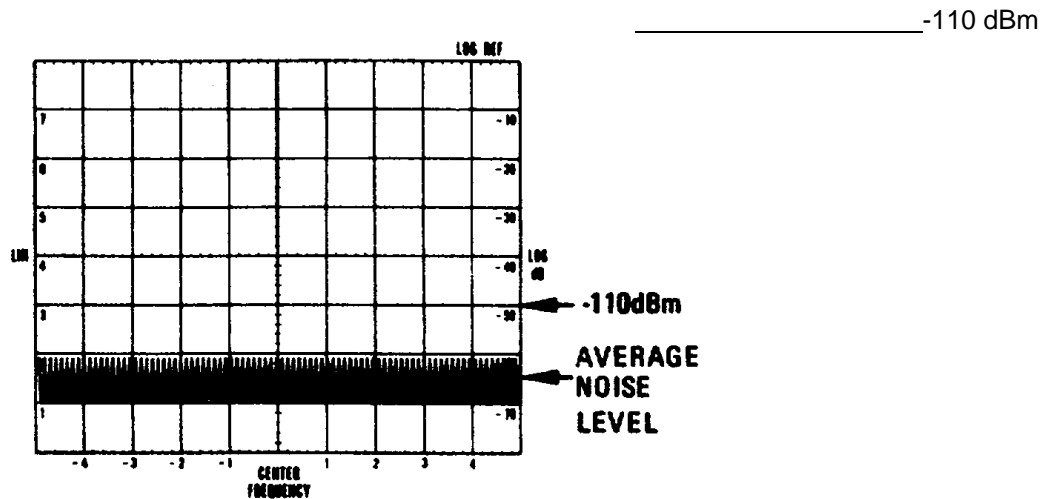

Figure 4-11. Sensitivity Measurement: CRT Display
3. Observe the average noise power level on the CRT. It should be lower than -110 dBm as shown in Figure 4-11 as frequency is tuned from 110 MHz to 1 MHz. Make sure the LOG REF LEVEL vernier is set at 0 during the measurement.